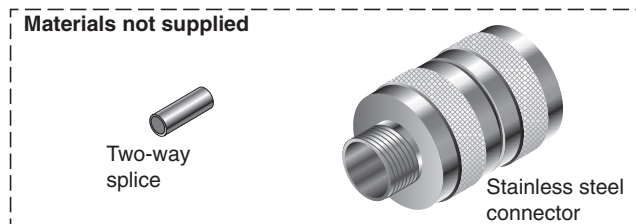

Figure 1
- American Connector stainless steel MC connector – Type WT-WSE (See Figure 1)
- Thomas&Betts tin plated copper compression two-way splice connector – standard barrel (See Figure 1)